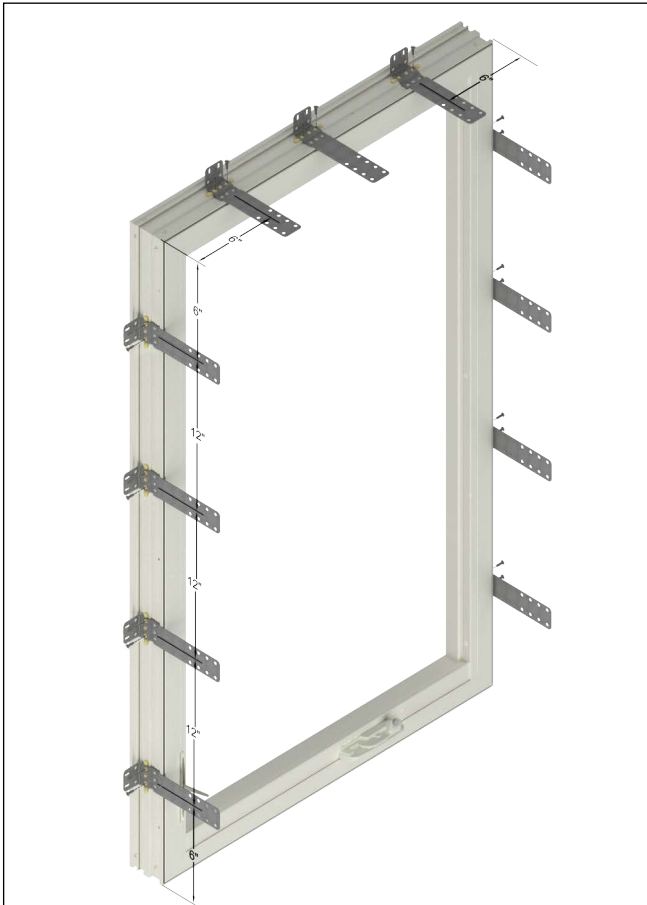
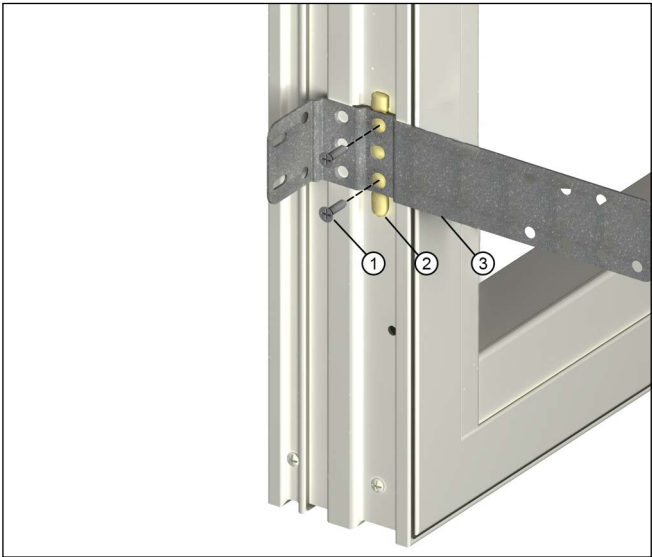

Figure 7
Figure 9 Direct Glaze
4. If you are installing a window with structural brackets apply a 3/16" (5) diameter 1 1/2" (38) long bead of heavy duty construction adhesive in the exterior jamb channel. The adhesive is to be placed 6" (152) in from each corner and spaced 12" (305) apart along the head jamb and jambs of the unit. Press the 90° bent structural brackets firmly into place over the adhesive and secure with the two provided screws in the structural bracket kit. See Figure 7, Figure 8 and Figure 9.